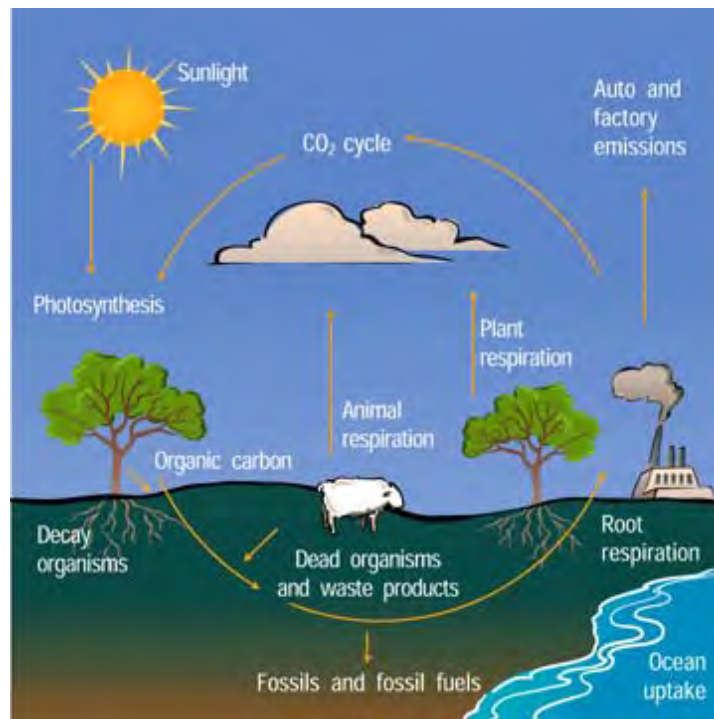

Figure 2 One representation of the carbon cycle. Organic carbon means carbon bound up in living organisms and in their waste products.
Carbon is mostly cycled through the carbon dioxide in the atmosphere. As you learned on page 7, there are processes by which it is added to the atmosphere and processes by which it is removed. This cycling of carbon via carbon dioxide is known as the **carbon cycle**. One simple representation of the carbon cycle is shown in Figure 2 on page 16.
- **Fermentation:** $\text{glucose} \rightarrow \text{carbon dioxide} + \text{alcohol} + \text{energy}$ *(This process is not listed in Figure 2)*
- **Formation of shells, corals, stalactites and stalagmites etc.** *(This process is not listed in Figure 2)*